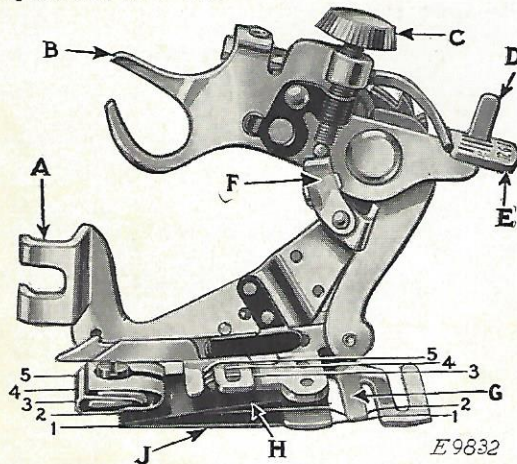
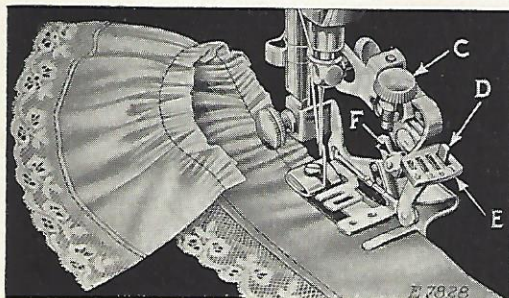
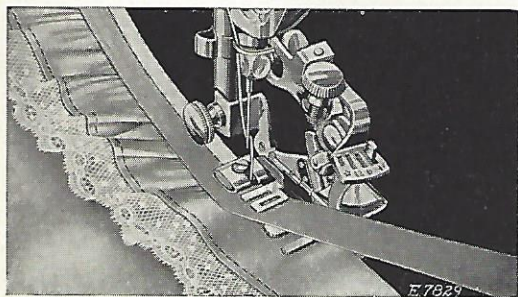
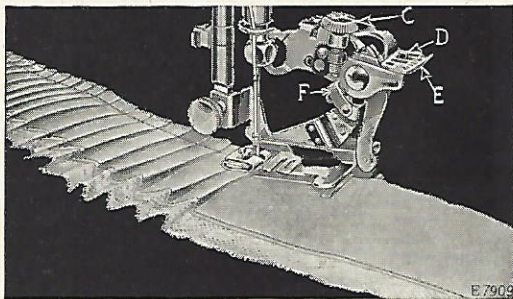

FIG. 36. THE RUFFLER AND ITS PARTS
Fig. 37
FIG. 39
FIG. 41
Lines 1, 2, 3, 4 and 5 shown in Fig. 36 indicate where the material is to be placed for various operations, as follows:
Refer to Fig. 36 when inserting the material in the ruffler.
(SEE REFERENCES IN FIG. 36)
Raise the needle bar to its highest point and remove the presser foot. Attach the ruffler foot (A, Fig. 36) to the presser bar by means of the thumb screw, at the same time placing the fork arm (B, Fig. 36) astride the needle clamp as shown in Fig. 37.
The adjusting finger (F, Fig. 37) is not intended for gathering and should be moved forward or away from the needle, as shown in Fig. 37.
Raise the adjusting lever (E, Fig. 37) and move it to the left so that the projection (D, Fig. 37) will enter the slot marked "1" in the adjusting lever (E) when the lever is released. The ruffling blade will then move forward and back once at every stitch. Insert the material to be ruffled between the two blue blades, following the line 2 in Fig. 36. Draw the material slightly back of the needle, lower the presser bar and commence to sew.
To make fine gathering, shorten the stroke of the ruffling blade by turning the adjusting screw (C, Fig. 37) upwardly; also shorten the stitch. To make full gathering, lengthen the stroke of the ruffling blade by turning the adjusting screw (C) downwardly, also lengthen the stitch. By varying these adjustments, many pleasing varieties of work can be accomplished.
2, in Fig. 36. Place the garment to which the ruffle is to be attached, under the separator blade, following the line 1, in Fig. 36. Proceed the same as for gathering.
Insert the material to be ruffled between the two blue blades, following the line 2, in Fig. 36. Place the garment to which the ruffle is to be attached, under the separator blade, following the line 1, in Fig. 36. Place the material for the facing over the upper blue blade, as shown in Fig. 39, following the line 3, in Fig. 36. The facing may be straight or bias material. If the facing is to be on the right side of the garment, place the garment and
Insert the material to be ruffled between the two blue blades, following the line 2, in Fig. 36. This
The material for piping must measure about  $\frac{1}{4}$  inch wide when folded in the centre and is usually cut on the bias. Place the piping material in the ruffler, following the line 4, in Fig. 36, with the folded edge of the piping to the right. The material to which the piping and ruffling are to be sewn should be folded on the edge and inserted in the ruffler, following the line 5, in Fig. 36.
Raise the adjusting lever (E, Fig. 41) and move it to the right so that the projection (D, Fig. 41)
will enter the slot marked "6" in the adjusting lever when the lever is released. The ruffling blade will then move forward and back once at every six stitches. To adjust the ruffling blade to make a plait once at every twelve stitches, place the adjusting lever (E, Fig. 41) so that the projection (D) enters the slot marked "12" in the adjusting lever. Insert the material to be plaited between the two blue blades, following the line 2 (Fig. 36). The size or width of plaits is regulated by the adjusting screw
(C, Fig. 41) and the adjusting finger (F, Fig. 41). To make a wider plait, move the adjusting finger (F) back or toward the needle and turn the adjusting screw (C) downwardly. To make a smaller plait, turn the adjusting screw (C) upwardly. The distance between plaits is regulated by the length of stitch.